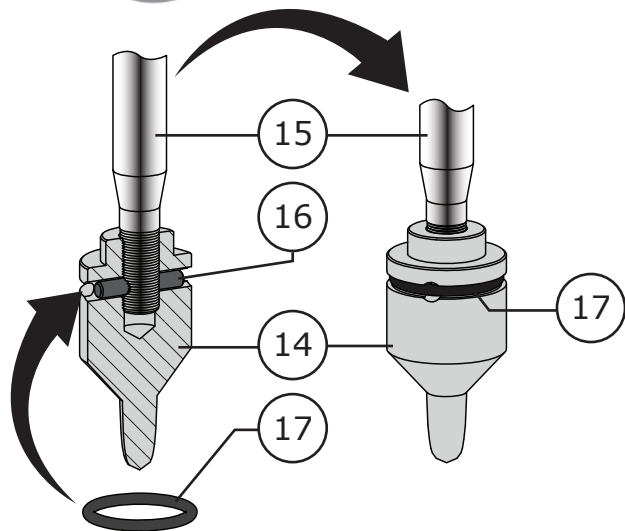

Figure 33 Plug/Stem Assembly Part 2
- 6 Insert the groove pin (Key 16) through the valve plug (Key 14) and valve stem (Key 15) as shown in Figure 33. **NOTE:** Very little force should be required to insert the groove pin, do not apply excessive force.